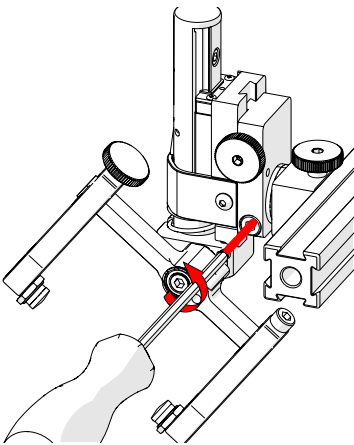

Fig. 90 - Loosen 3 mm screw
2. Using the supplied 3 mm hex driver (Fig. 40), loosen the longitudinal adjustment screw (Fig. 90).